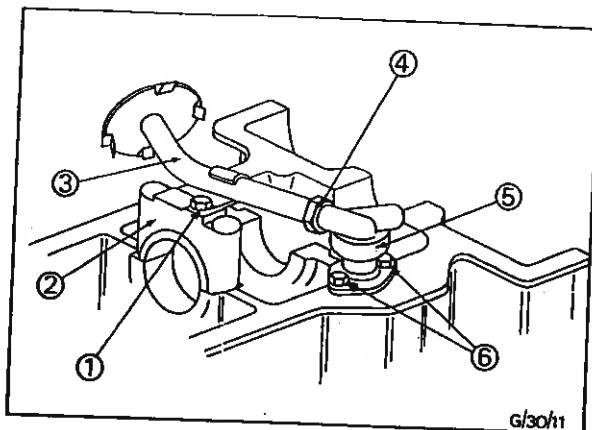

Fig. 23 - Oil Pump Removal/Replacement - 2722, 2723, 2725 and 2726T Engines not fitted with High Inclination Oil Pans
37. Bend up the lock tabs securing the oil pick-up pipe union nut to the oil pump, and unscrew the union - see Fig. 23. Remove the pick up pipe support bracket bolt from the main bearing cap and withdraw the pick up pipe from the pump. Remove the bolts securing the pump to the cylinder block and carefully withdraw the pump.